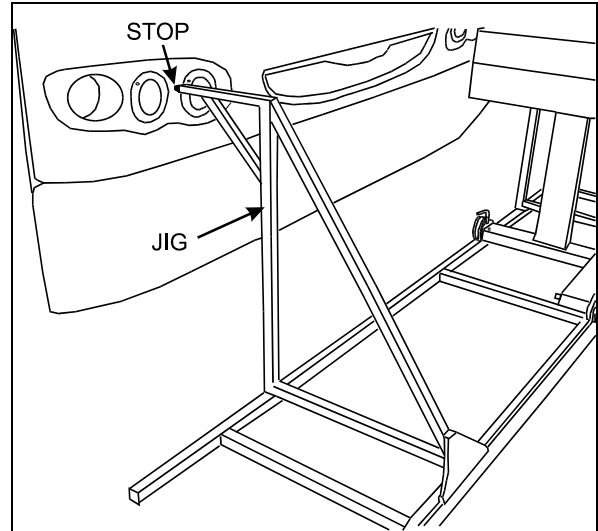

FIGURE 29: INSTALLATION OF JIGS 06499
3. Install jigs #29263 and #29262 onto the support rail. Position the support rail so that both stops are centered between the two beams (Fig. 29). Mark the position for future reference.